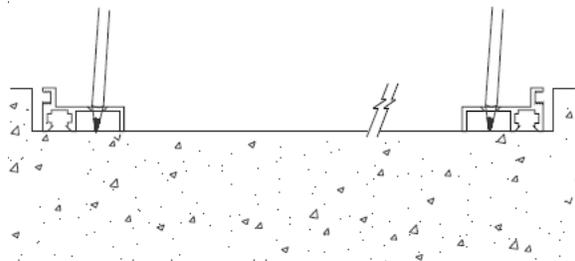

Figure 7
STEP 11. Using the frame as a template, mark the locations for the frame anchors on the concrete (see Figure 7).